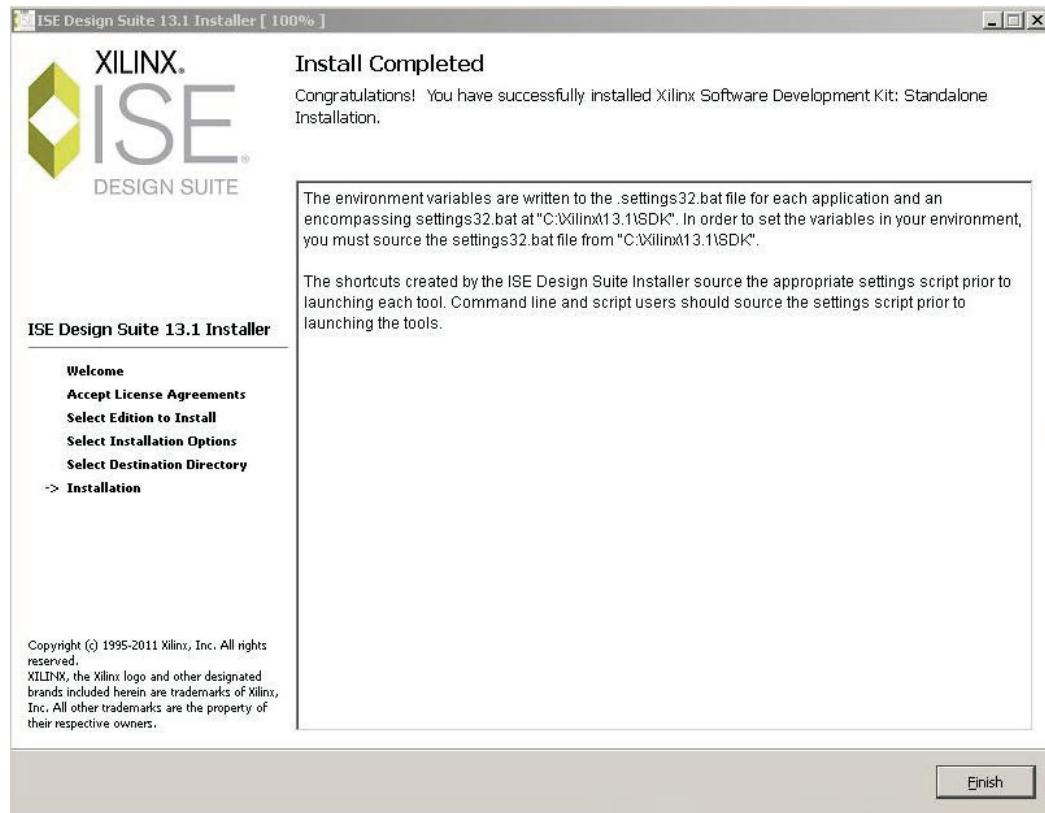

Figure 11: Installation Completed
3. When the installation has completed, the window shown in Figure 11 is displayed. Click **Finish**.